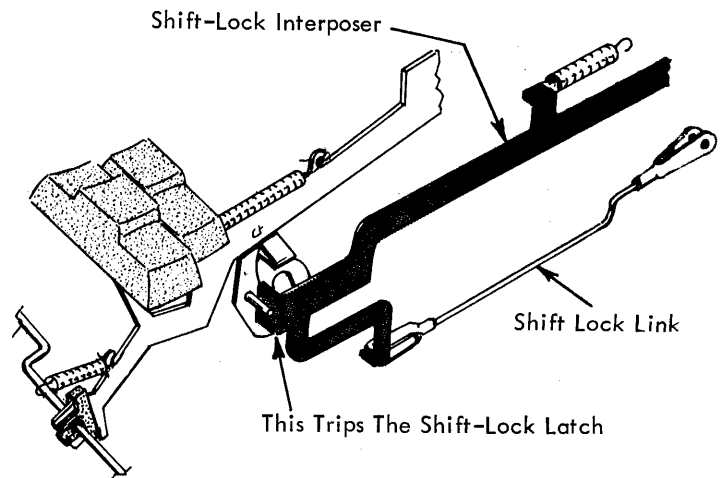

FIGURE 59. Shift-Lock Link
6. Shift Lock Link - Adjust the clevis to reliably unlatch the shift lock (Fig. 59).